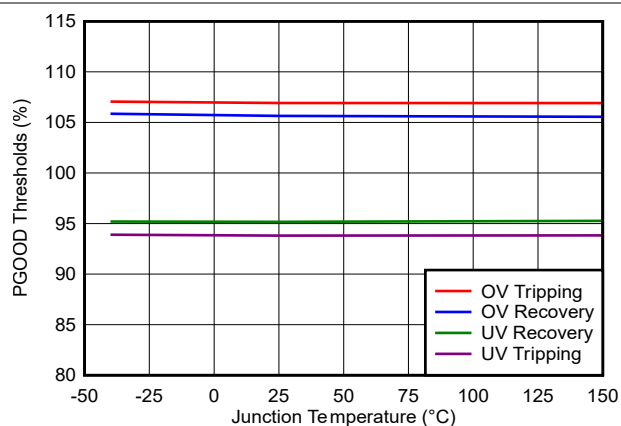
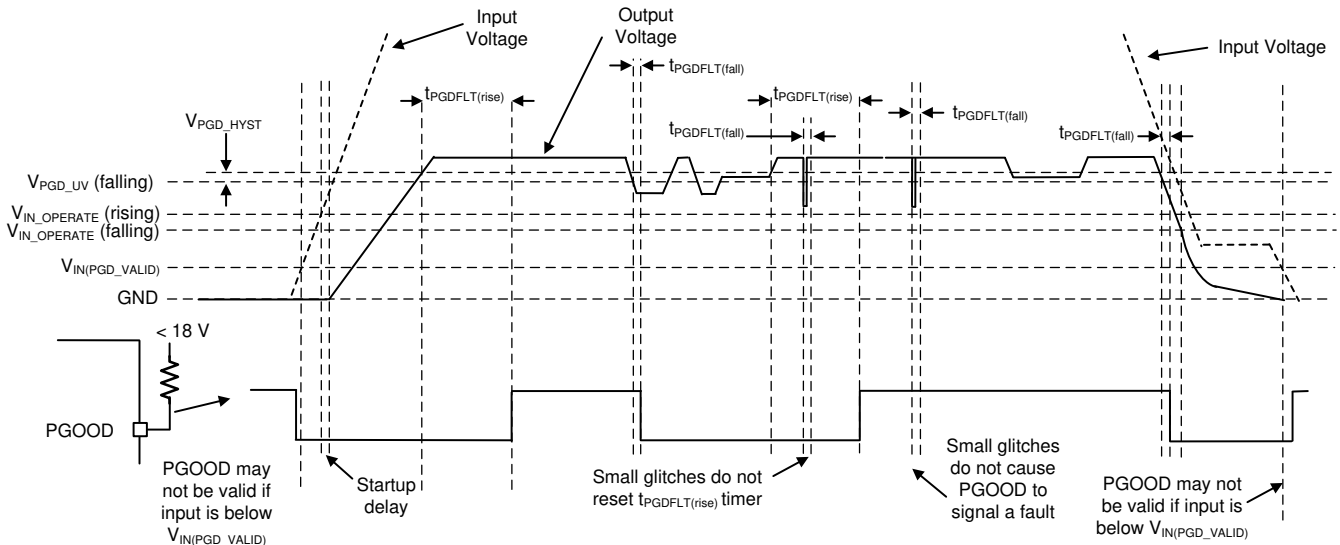

Figure 6-8. PGOOD Thresholds
Figure 7-5. PGOOD Timing Diagram (Excludes OV Events)
The PGOOD function is implemented to replace a discrete reset device, reducing BOM count and cost. The PGOOD voltage goes low when the feedback (FB) voltage is outside of the specified PGOOD thresholds (see Figure 6-8). This can occur during current limit and thermal shutdown, as well as when disabled and during normal start-up. A glitch filter prevents false flag operation for short excursions of the output voltage, such as during line and load transients. Output voltage excursions that are shorter than $t_{PGDFLT(fall)}$ do not trip the PGOOD flag. Refer to Figure 7-5 to best understand PGOOD operation.
$V_{OUT} < V_{OUT-target} \times PGDI_{UV}$ AND $t > t_{PGDFLT(fall)}$	Output voltage in regulation: $V_{OUT-target} \times (PGDI_{UV} + PGDI_{HYST}) < V_{OUT} < V_{OUT-target} \times (PGDI_{OV} - PGDI_{HYST})$ (see Figure 6-8)